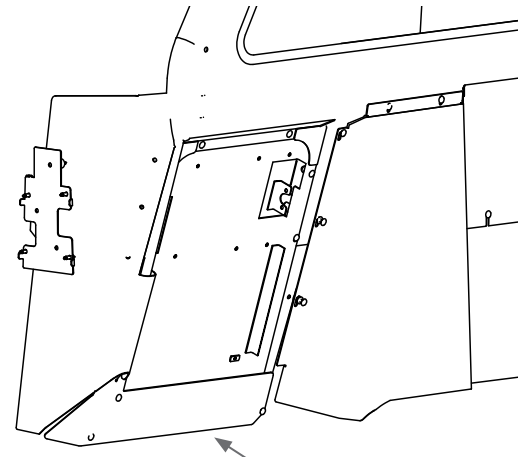

fig. 10
H. Place the 3SP5715-04 bottom panel against the Viper Shield Housing and Partition. Align the holes in the panel with the Partition and VSHA001 Housing. First install the top bolt on the left edge of the panel through the partition and the housing, securing it with the supplied 1/4-20 x 5/8" (3X36) carriage bolt and whiz nut (3X16Z). Next install the remaining bolts securing the panel to the VSHA001 Housing using whiz nuts to secure the bolts. (See Fig. 10)